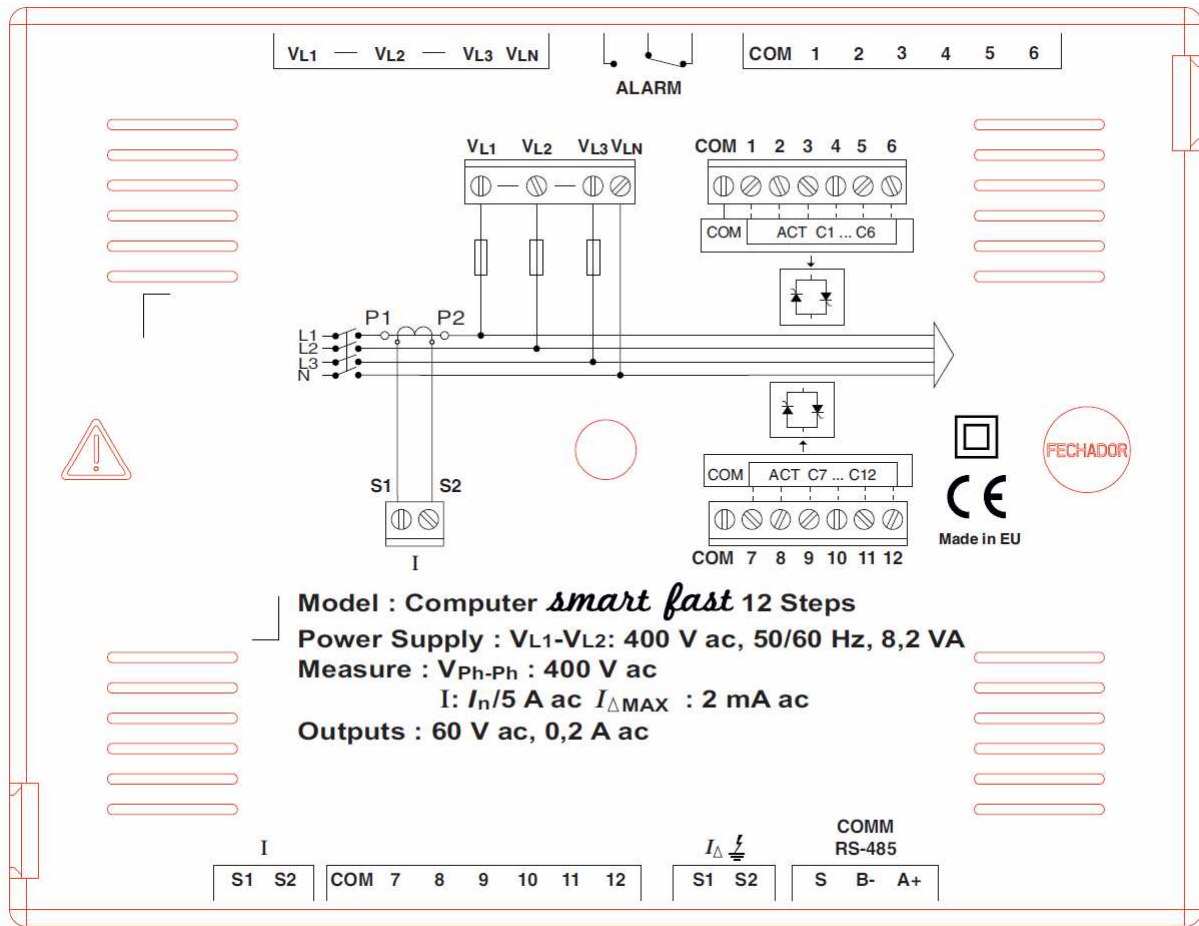

Fig. 1.1.- Rear label of the unit
- The type supplied is the same as that requested. (See label on the rear, Fig. 1.1)
The main features of the unit are marked on the label on the rear (see Fig. 1.1) and they are also described in the quick guide attached. They are summarised in the following table: